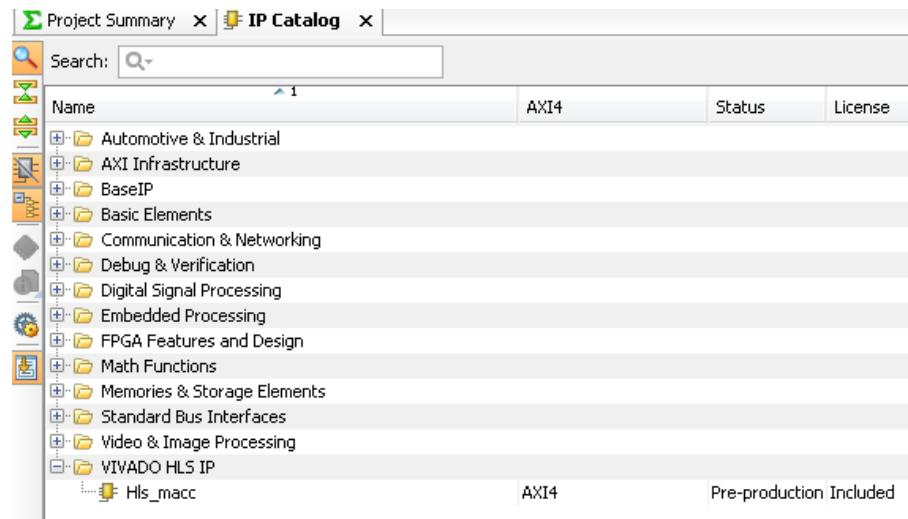

Figure 229 HLS IP in the IP Catalog
8. There should now be a Vivado HLS IP category in the IP Catalog and if expanded the Hls_macc IP should be displayed (Figure 229).